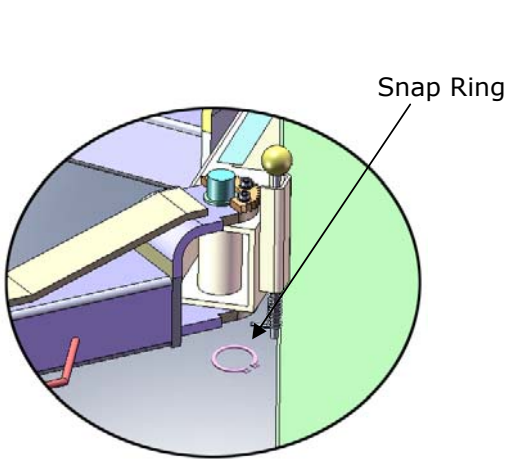

Fig. 28
1. Install the lifting arms (See Fig. 28).